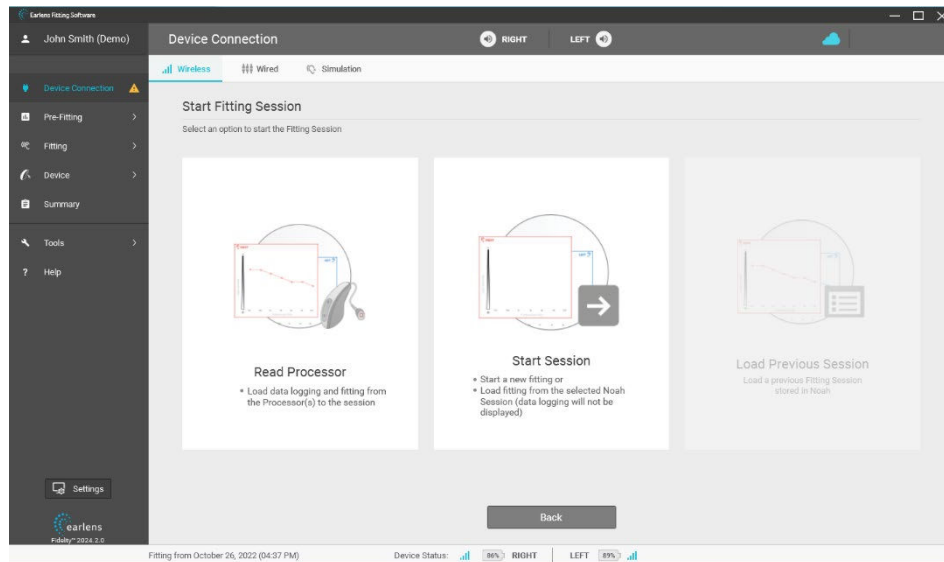

Figure 24: Device connection screen: session options
- b. Select 'Start Session' to begin fitting (Figure 24). Do not attempt to 'Read Processors' with new Processors.